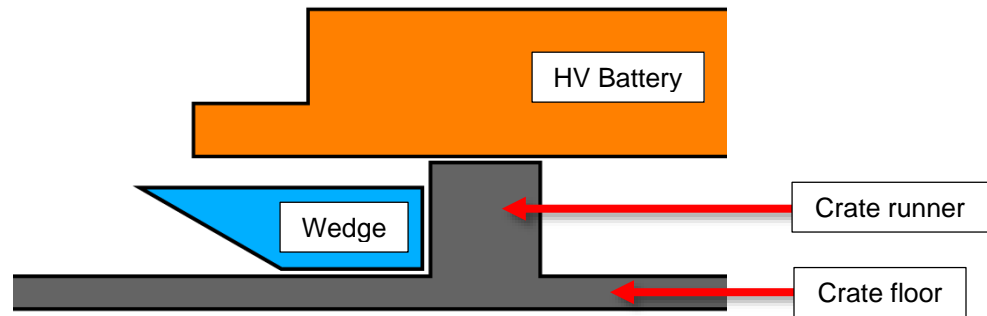

Figure 3
1. Place 1 wedge under a corner of the HV battery with the straight end of the wedge touching the crate runner (Figure 3).